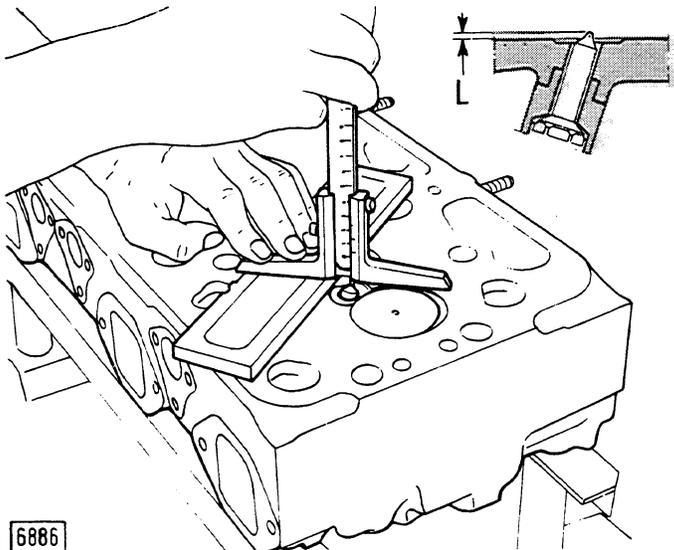

Fig. 14 - Checking Injector Protrusion from Cylinder Head
- Fuel injector protrusion (L) is as shown in Fig. 14.